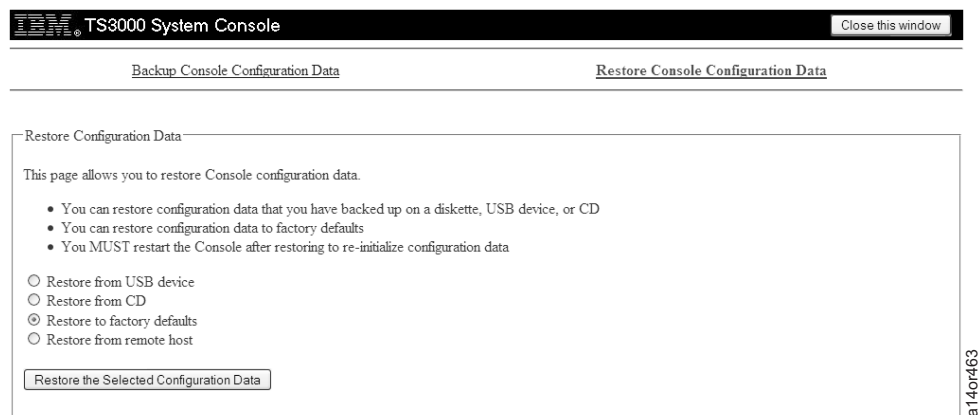

Figure 2-115. Restore Configuration Data Screen
6. Click **Restore Console Configuration Data**. You see the screen shown in Figure 2-115.